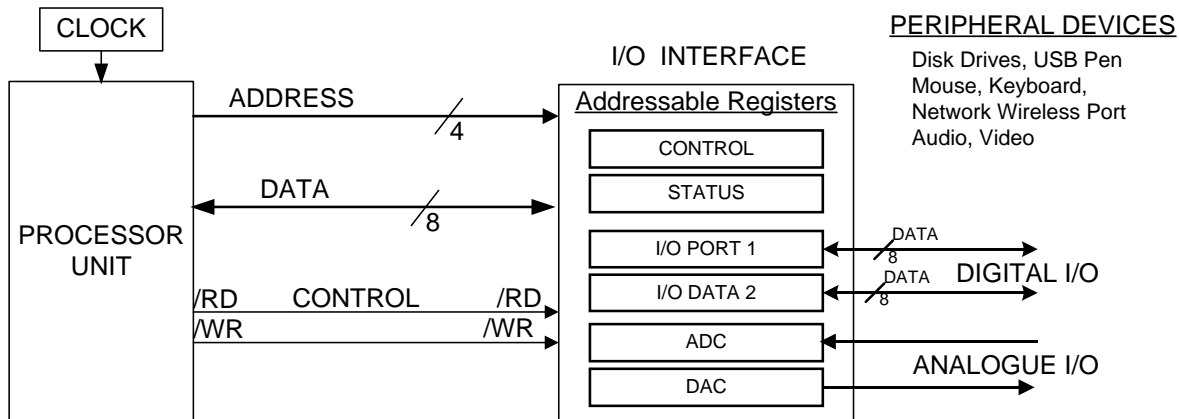

Figure 2 - Processor – A generic I/O Interface.
1. For the generic I/O interface shown in Figure 2 :
The generic I/O interface in Figure 2 shows that although the processor bus interface is purely digital, the peripheral side can be digital or analogue. Obviously, in the case of an analogue input and output the interface must do some signal conversion – discussed below. In addition to signal conversion, interfaces often manage I/O transfer operation by providing timing and buffering functions.
The I/O interface links the processor system to its peripheral devices. Figure 2 shows that the same bus address, bus data, and read and write signals are present and the only notable difference is that there are far fewer address signals, only 4 in Figure 2, and these are used to address internal registers and ports within the I/O device.
A register is a named placeholder within a processor or I/O interface device. For example, the Control Register in Figure 2, is the register that sets the operating characteristics of the interface. Usually parameters such as data rate, data format, signal direction and clock speed can be controlled by writing (or reading) flag bits within the Control Register.